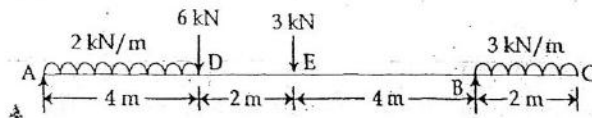

Fig. 2
- (c) Draw the shear force and bending moment diagrams for the beam shown in fig : 2. 20